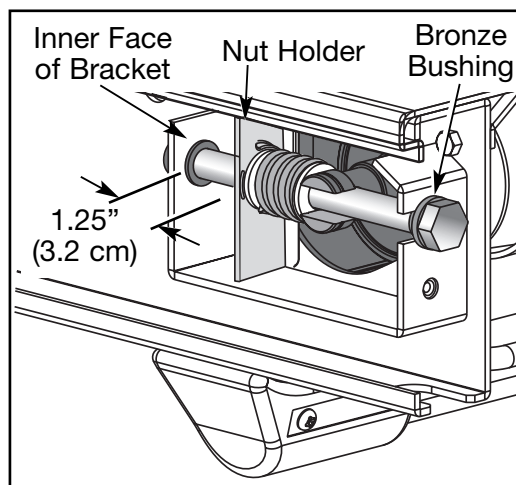

Figure 10
- B. Slide the hardware for each side into position. **NOTE:** *Place the end of the bolt in first and then hold the rear roller up while you pivot the group of hardware into the rear roller slot. Be sure the bronze bushing is touching the head of the bolt.* See Figure 10.
- C. Using a 3/4" socket wrench, tighten each rear roller bolt evenly, making sure not to tighten either bolt too many turns before moving to the other bolt. When properly tensioned, the space between the inner face of the bracket and the nut holder should measure 1.25" (3.2 cm). See Figure 10.
- A. Using a 3/4" socket wrench, tighten each rear roller bolt evenly, making sure not to tighten either bolt too many turns before moving to the other bolt. When properly tensioned, the space between the inner face of the bracket and the nut holder should measure 1.25" (3.2 cm). See Figure 10.